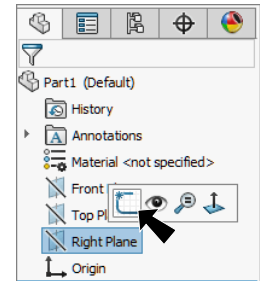
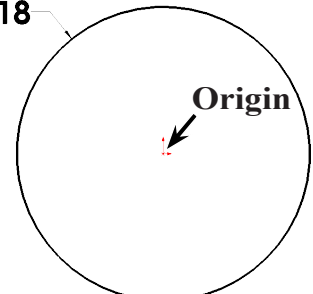

Fig. 1
Fig. 2
Step 2. Click **Right Plane**  in the Feature Manager and click **Sketch**  on the context toolbar, **Fig. 1**.
Step 3. Click **Circle**  (S) on the Sketch toolbar.
Step 4. Sketch a circle starting at the Origin , **Fig. 2**.
Step 5. Click **Smart Dimension**  (S) on the Sketch toolbar.
Step 6. Dimension circle **diameter 3.18**, **Fig. 2**.